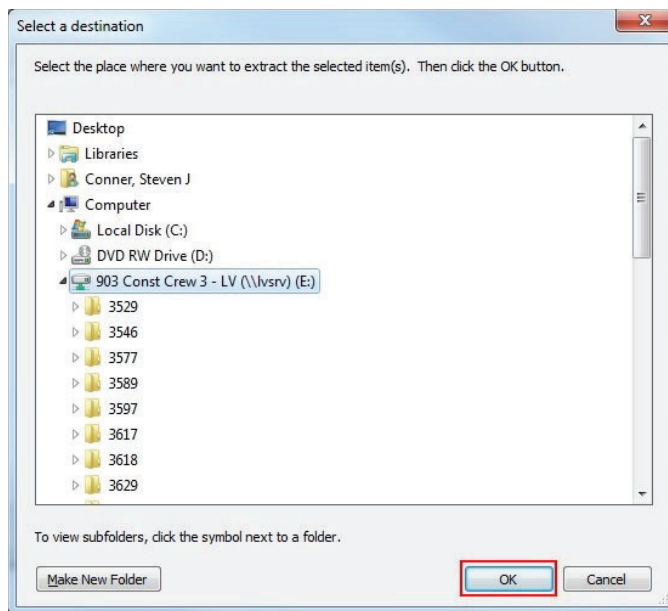
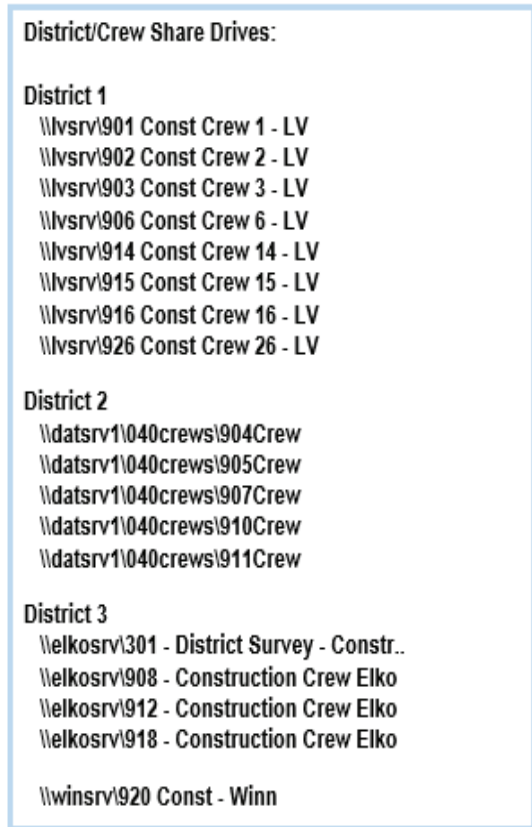

Figure 2-8: Select a Destination
Figure 2-9: District/Crew Share Drives
8. Browse to the location on your District/Crew share drive (Figure 2-9) to extract the directory template (EDOC Contract Files) and click **OK** (Figure 2-8).